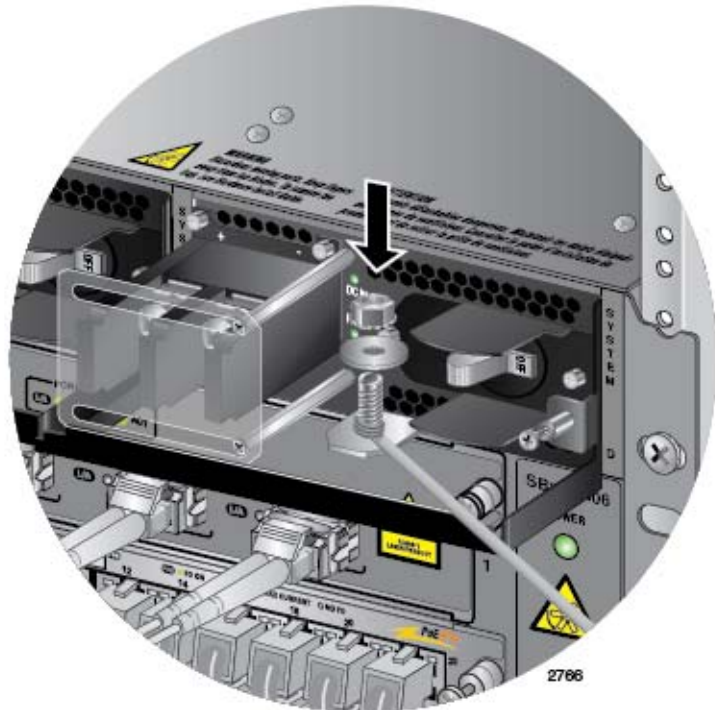

Figure 120. Securing the Bare Grounding Wire to the Grounding Post
4. Secure the wire with the nut and washer removed in step 2, and an 8 mm wrench, as shown in Figure 120 on page 181.